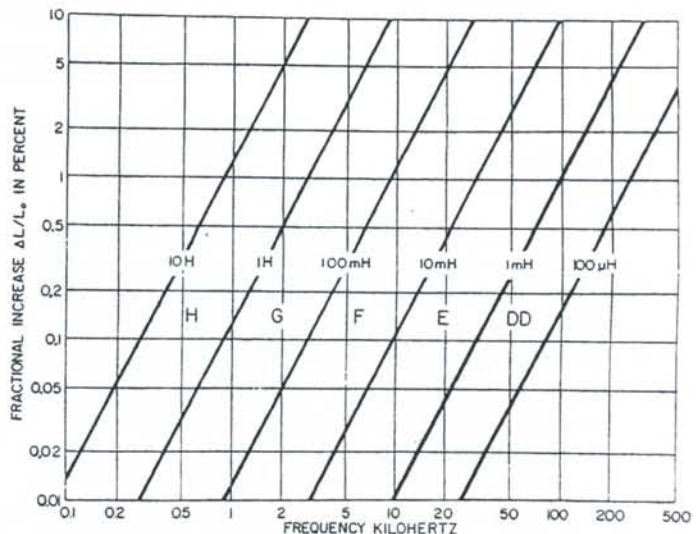

Figure 2-5. Change in effective inductance with frequency for the 940 Decade-Inductor Units (chassis floating).
• 940. Figure 2-5 shows the percentage increase in effective series inductance (above the zero-frequency value, L_0) with extreme settings (X = 10) of the individual decade-inductor units when the chassis is floating. Interpolate for intermediate settings.